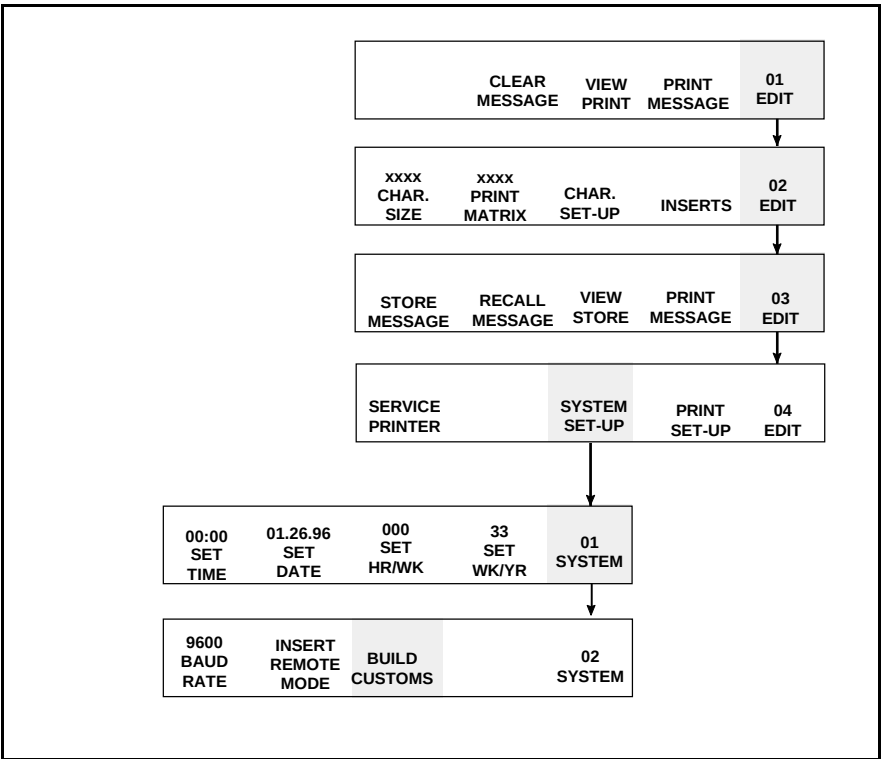

Figure 7-11. Accessing Frame <02 SYSTEM>
1. Begin in Frame <04 SYSTEM>. Refer to Figure 7-11.
The custom character is created in Frame <02 SYSTEM>. Refer to Figure 7-11 below for directions to reach this frame.